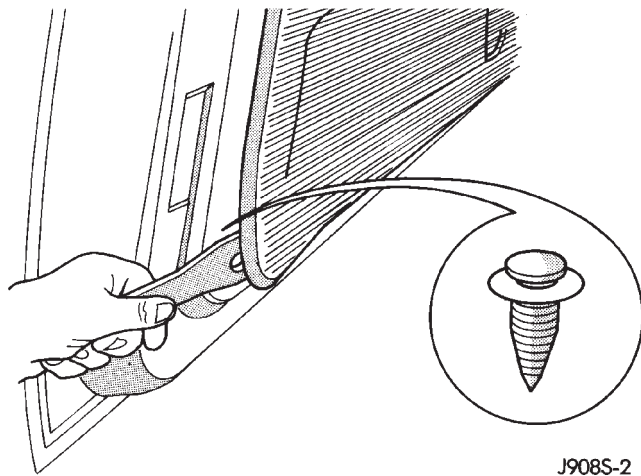

Fig. 13 Trim Panel Remove - XJ
- (6) Pull armrest straight out from trim panel.
- (7) Remove trim panel with a wide, flat-bladed tool (Fig. 13).